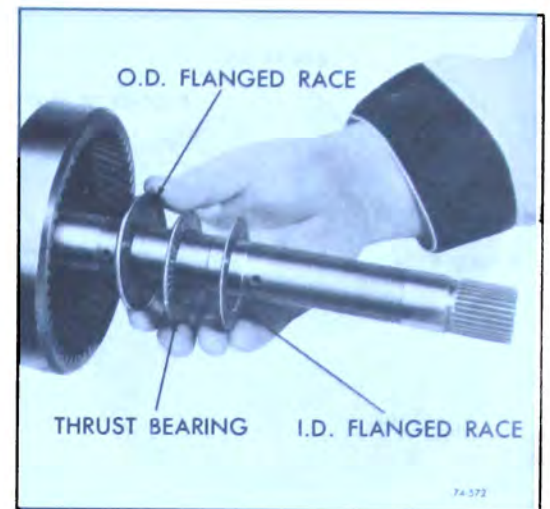

Figure 74-572
13. Remove rear internal gear to sun gear thrust bearing and two (2) races. See Figure 74-572.